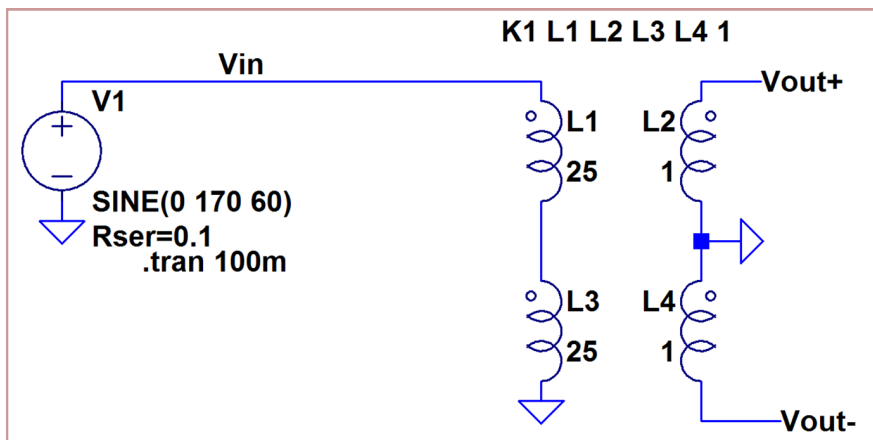
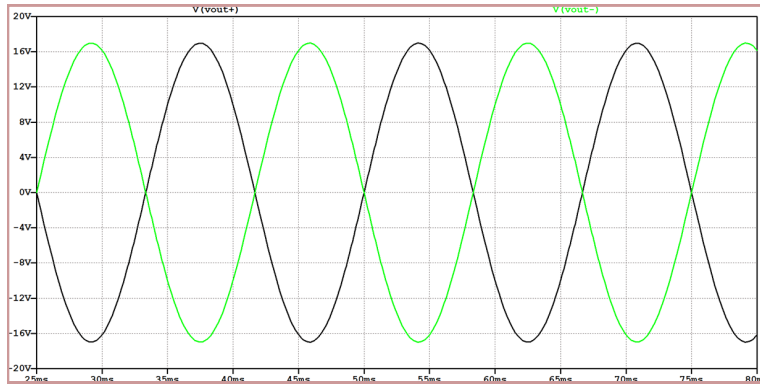

Figure 17. Center-tapped secondary.
Figure 18. Outputs from center-tapped secondary.
3. An example with primary coils in series and secondary coils connected in a center-tapped configuration is shown in Fig. 17. The outputs from this are shown in Fig. 18 and are 17V and -17V.